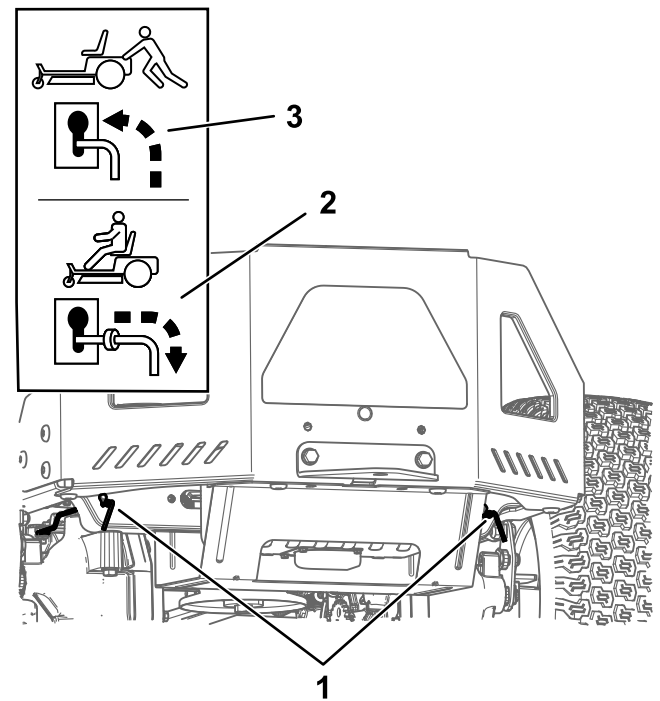

Figure 26
4. Move both bypass levers forward through the slotted hole and down to lock them in place (Figure 26).